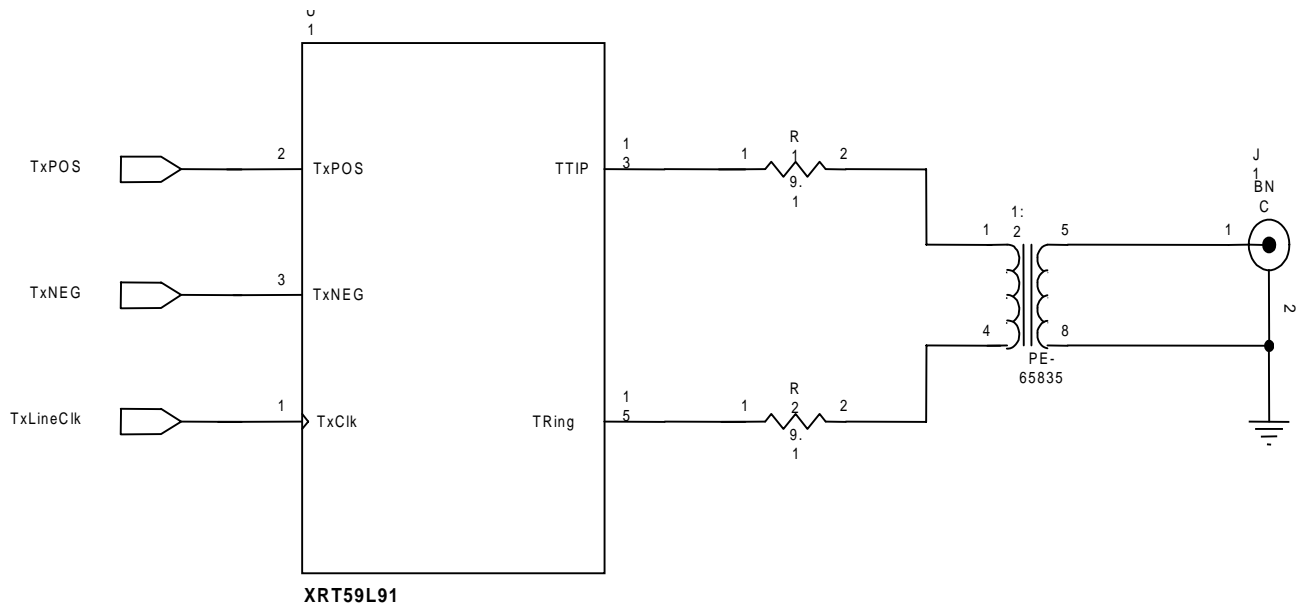

Figure 5. Illustration of how to interface the Transmit Section of the XRT59L91 device to the Line (for “75 ω ” Applications)
In both applications (e.g., 75 ω or 120 ω), the user is advised to interface the Transmitter to the Line, in the manner as depicted in Figures 5 and 6, respectively.
1. Figures 5 and 6 indicate that for both “75W” and “120W” applications, the user should connect a 9.1W resistor, in series, between the TTIP/TRing outputs and the transformers.
2. Figure 5 and 6 indicate that the user should a “1:2 STEP-UP” Transformer.